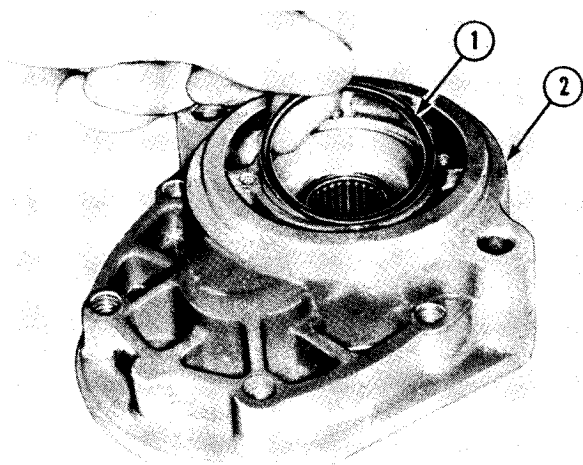

Figure 3-55
Remove and discard the "O"-ring (1, Fig. 3-55) from the body (2).
Install new "O" ring (1, Fig. 3-55) in the body (2).